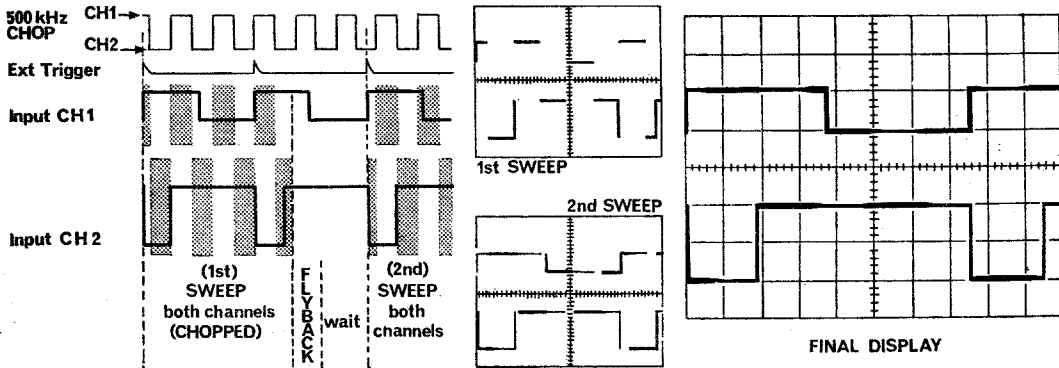

Fig. 14 Dual trace—Chopper switched method
d. *CHOP position (dual trace)*. A double trace display is obtained by switching the input to the cathode ray tube rapidly from the channel one amplifier to channel two and back with an electronic switching circuit operating at 500kHz (see figure 14). It is the recommended method of using the oscilloscope for frequencies below 10kHz. The CHOP method of switching means that there will be small 'gaps' ($1\mu\text{s}$ wide) in the trace on *each* sweep, but as the chopper oscillator is not synchronized to the timebase trigger these gaps will only result in a variation of brilliance on the display. The presence of gaps only becomes serious when trying to examine narrow (μs) pulses at low p.r.f.s. (less than about 10 per second.) For this, a single trace display should be used to examine each signal separately and the chop position can then be used to examine the relative timing of the two signals. The main advantage of the chop method is that two signals can be examined at the *same time* i.e. without the trace time delay caused by the ALT method. This enables 'once-only' events to be examined using the single sweep timebase facility (see para 47).